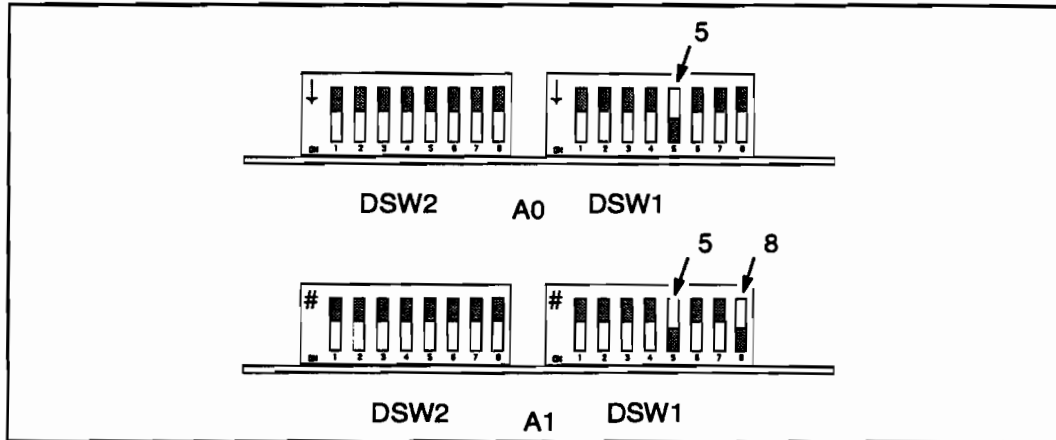

Figure 7-20. RMC PCA Switch Positions
7-36. When installing the RMC PCA in the plotter, the DSW1 and DSW2 switches must be set according to the model of the plotter. Refer to Figure 7-20 for switch segment designations. The settings are as follows:
3. For the D/A1 plotter Model 250, also set DSW1 segment 8 to the ON (down) position. See Figure 7-20.